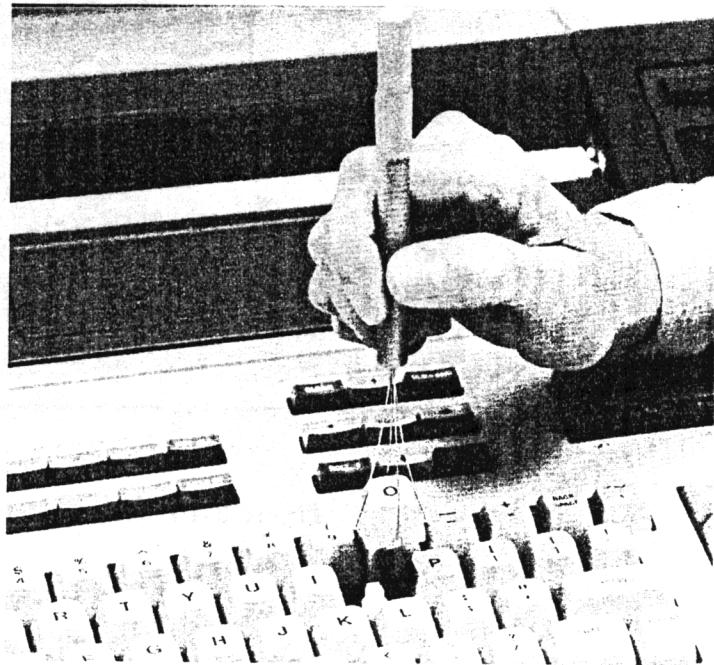

Figure 2-12 Removing a Key Cap
- Pull firmly upwards to remove the key cap (see Figure 2-12).